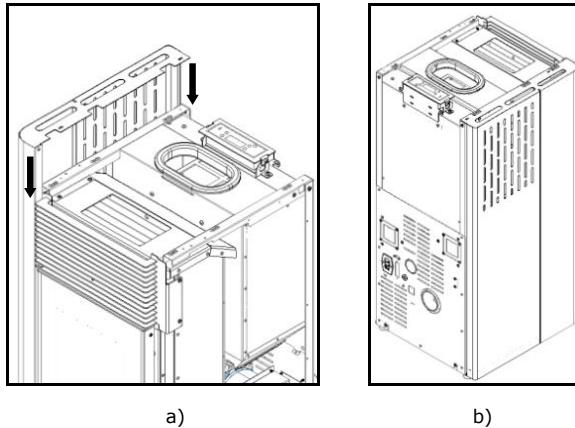

Figure 95 – Attaching the side casings
- e) Repeat the process described in b) and c) in this manual for the other casing and secure the side parts using four screws **B** (DIN 7981 4,2x9,5) from the kit, two on each side, as shown in Figure 95.